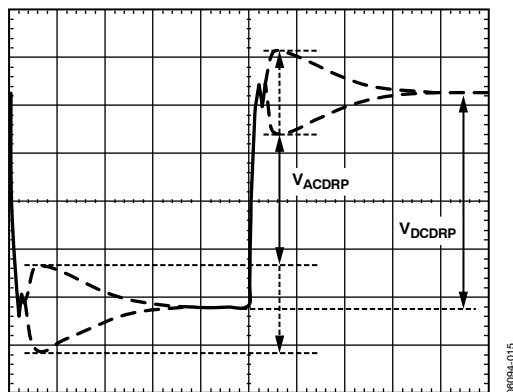

Figure 17. AC Load Line Waveform
- Measure the output waveform (use dc offset on scope to see the waveform). Try to use a vertical scale of 100 mV/div or finer. This waveform should look similar to Figure 17.
15. Use the horizontal cursors to measure V_{ACDRP} and V_{DCDRP} as shown in Figure 17. Do not measure the undershoot or overshoot that happens immediately after this step.